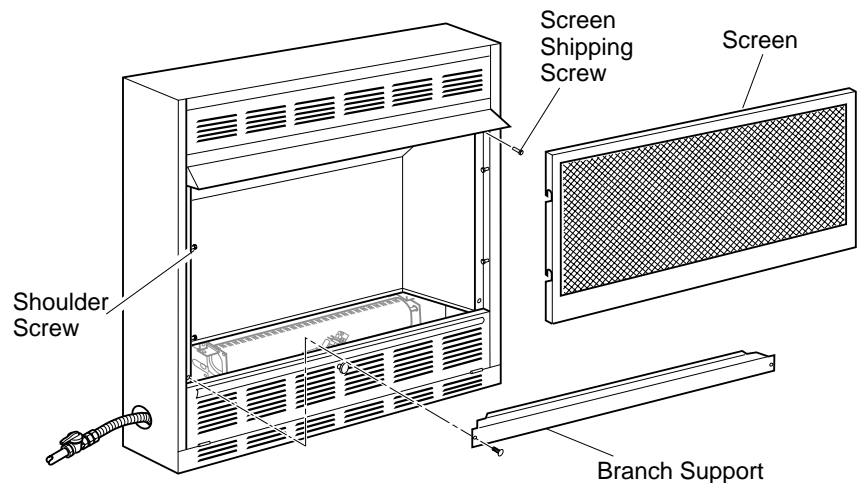

Figure 18 - Removing Branch Support From Fireplace
2. Remove screws that attach branch support to fireplace (see Figure 18). Carefully lift up branch support and remove from fireplace (see Figure 18).